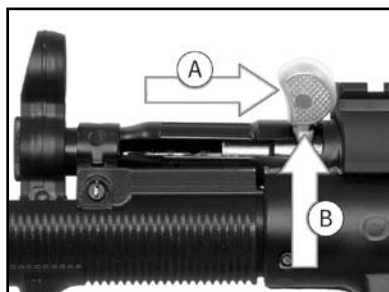

Fig. 23 – Lock charging handle
2. Pull charging handle all the way back and hold it (Fig. 23 Ⓐ).
3. Lock charging handle upwards in place into recess notch in receiver (Fig. 23 Ⓑ). The bolt group is held in rear position.